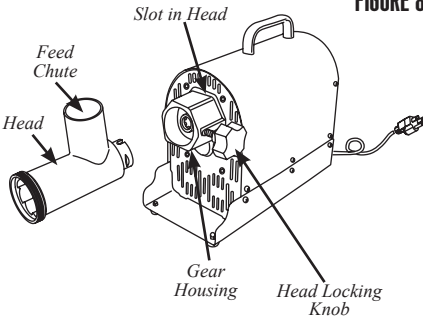

FIGURE 8
1. Insert the Head into the Gear Housing with the feed chute of the Head facing straight up. You will need to line up the slot in the Head with the Pin inside the Gear Housing. Be sure the Head is seated fully into the Gear Housing (**FIGURE 8**).